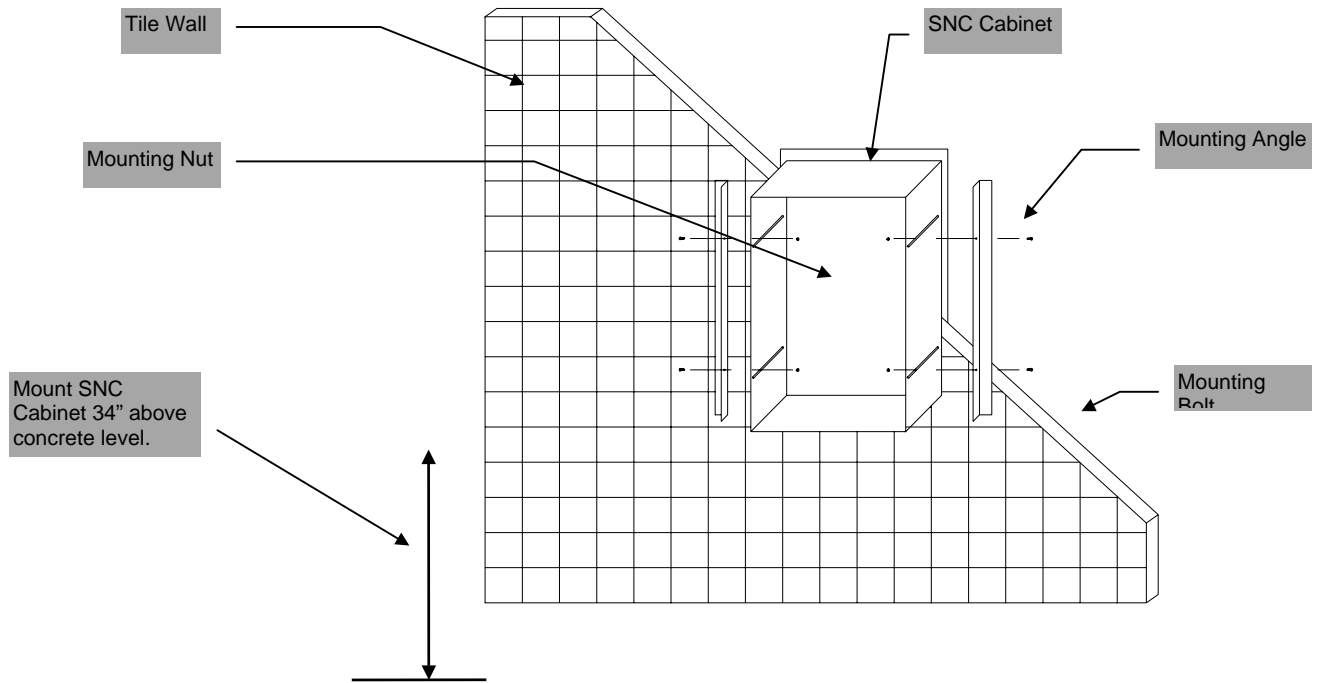

Figure 2
2. Once cabinet is inserted in the hole - secure using the angle mounting brackets and bolts provided. (See Fig. 2)